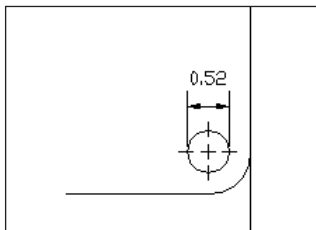

Figure 15-22: Dimension text is placed over the dimension line without a leader.
- ♦ **Over the dimension line, without a leader:** Places the dimension text over the dimension line, between the extension lines, but above them, with no leader, as shown in Figure 15-22. You can move the text anywhere.